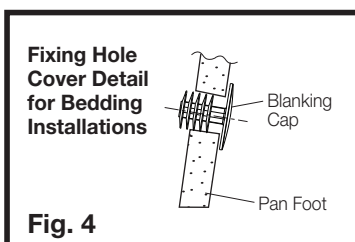

Fig. 4
- 3- Locate blanking cap (supplied) into pan fixing holes as detailed in Fig. 4.